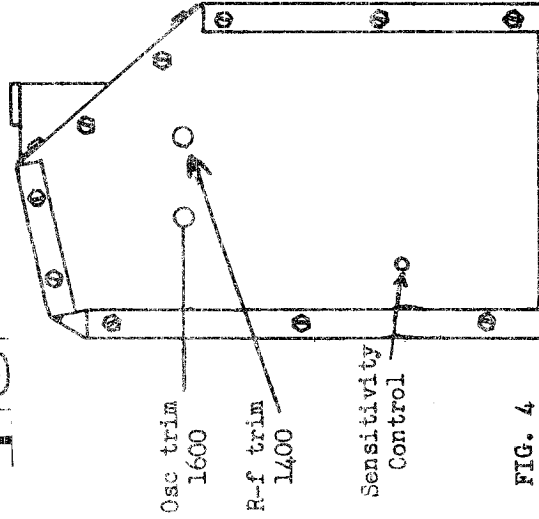

FIG. 4
Note: The Model 6FLD is equipped with an adjustable sensitivity control located in the position indicated in Fig. 4. This control is properly adjusted at the factory to provide a sensitivity of 7 microvolts at one watt output. The factory adjustment of this control provides as high a sensitivity level as possible without introducing excessive background noise. No attempt should be made to change the setting of the control unless laboratory equipment is available for measuring sensitivity.
1. Turn selector switch to "Manual Tuning" (D).
4. Adjust oscillator trimmer C-20 for maximum response. (See Fig. 4).
6. Adjust R-F trimmer C-2B (See Fig. 4) and the antenna trimmer C-39 (See Fig. 4) or maximum response.